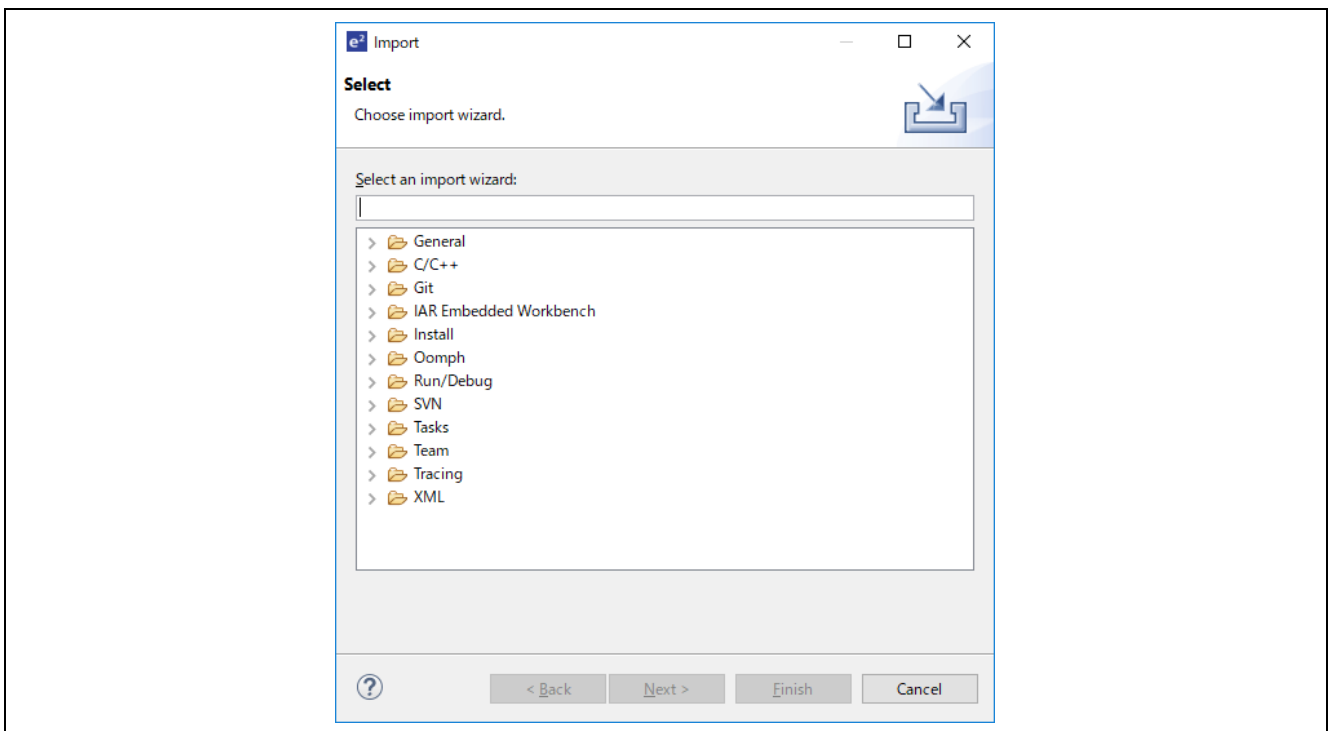

Figure 6-2. Import dialog
4. Click [file] → [Import] and then following dialog will appear (Figure 6-2)